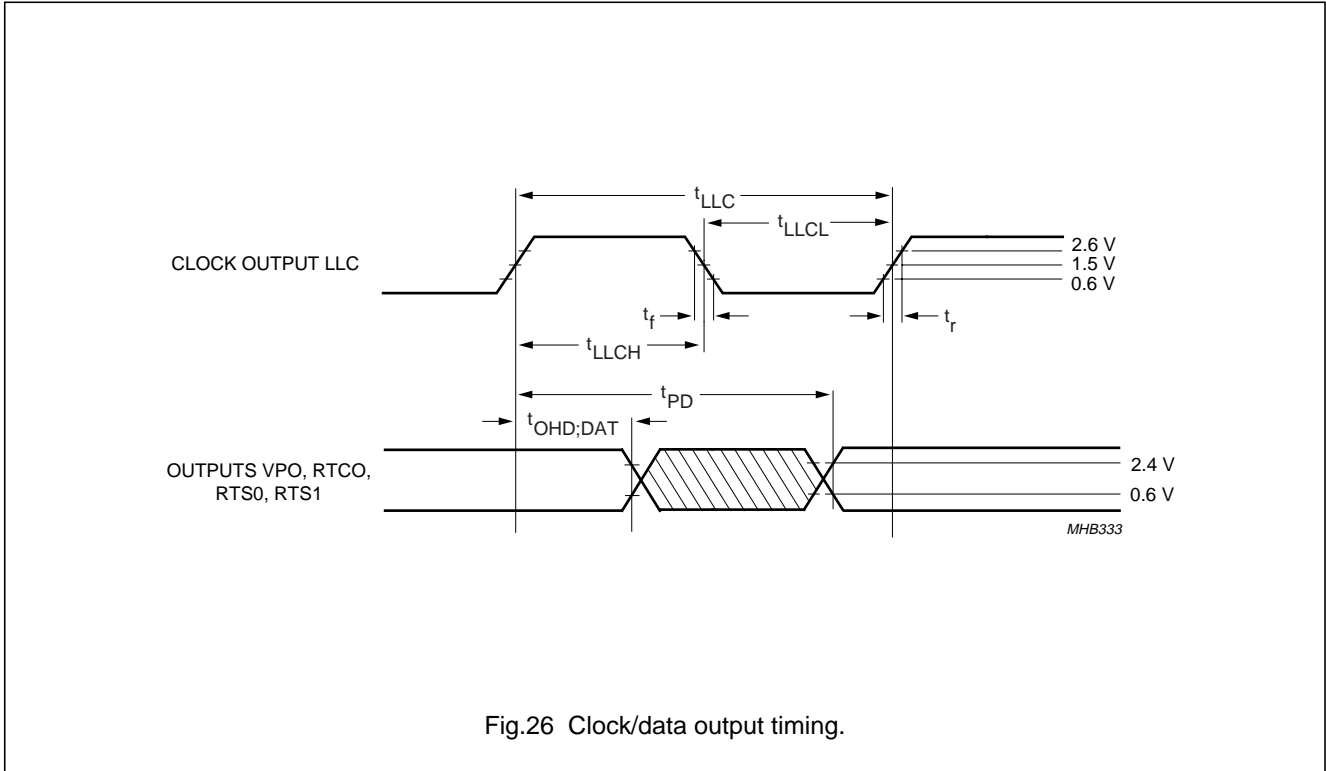

Fig.26 Clock/data output timing.
2. The effects of rise and fall times are included in the calculation of  $t_{OHD;DAT}$ ,  $t_{PD}$  and  $t_{PDZ}$ . Timings and levels refer to drawings and conditions illustrated in Fig.26.